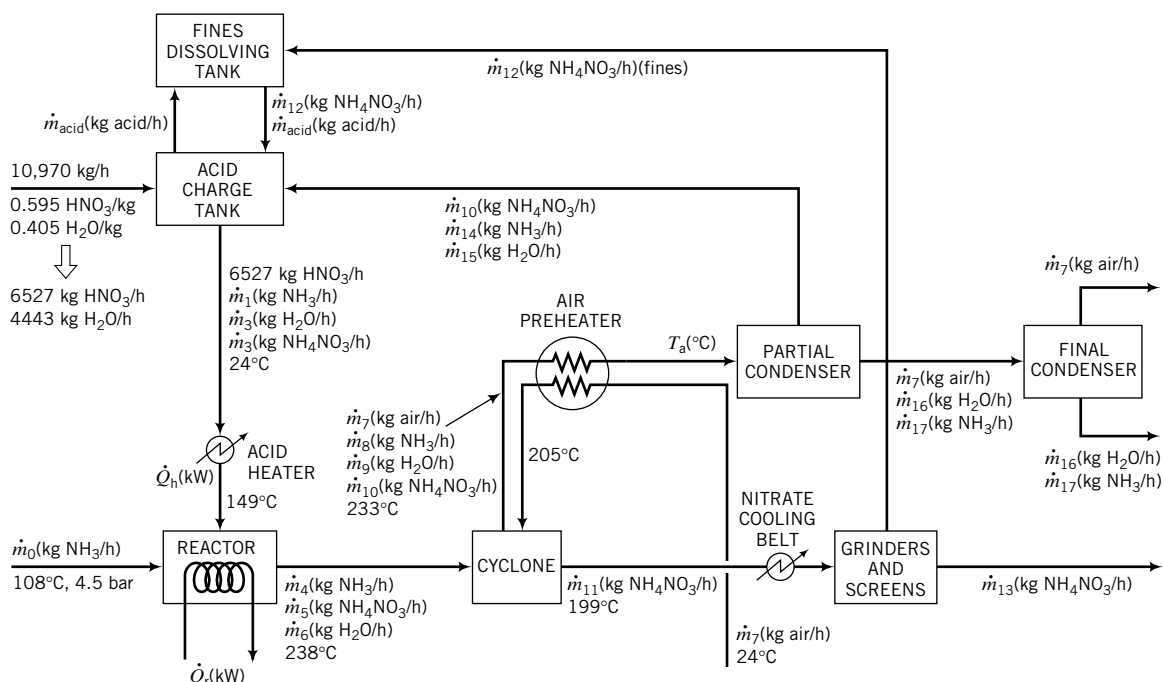

Figure 10.3-1 Flowchart of an ammonium nitrate production process.
A labeled flowchart is shown in Figure 10.3-1. The principal features of the process are summarized in the paragraphs that follow.
It is desired to calculate the mass flow rates $\dot{m}_0, \dots, \dot{m}_{17}$ (see Figure 10.3-1), the temperature of the gas entering the partial condenser (T_a), and the heat duties on the acid heater (\dot{Q}_h) and the reactor (\dot{Q}_r).
- 27 \text{ ties (Referring to Figure 10.3-1, count them.)} \\